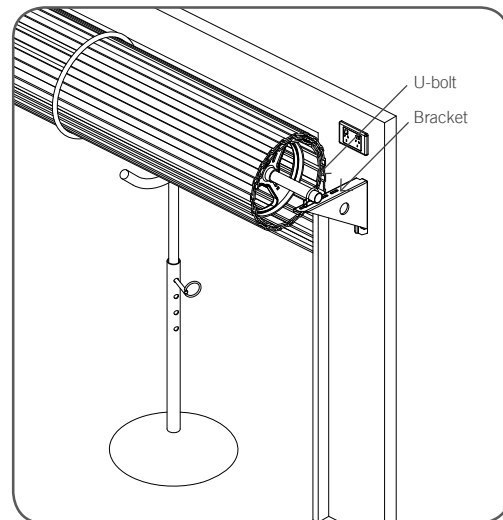

Fig.08
- Remove the door bracket allowing the door to rest on the support (**Fig. 08**).